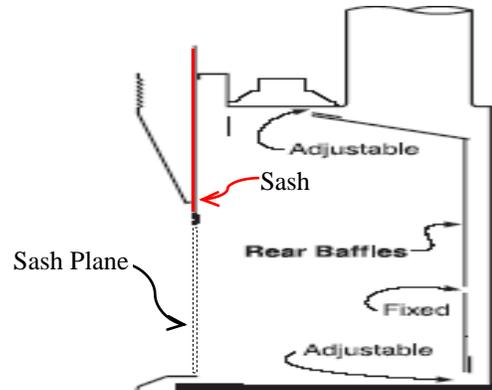

Figure 6.
3. Measure the velocity of the air at the center of each of the square foot sections, in the plane on the sash thickness. This is accomplished by placing the probe of the device at the center of each square just inside the sash plane (see Figure 6). Allow the device meter